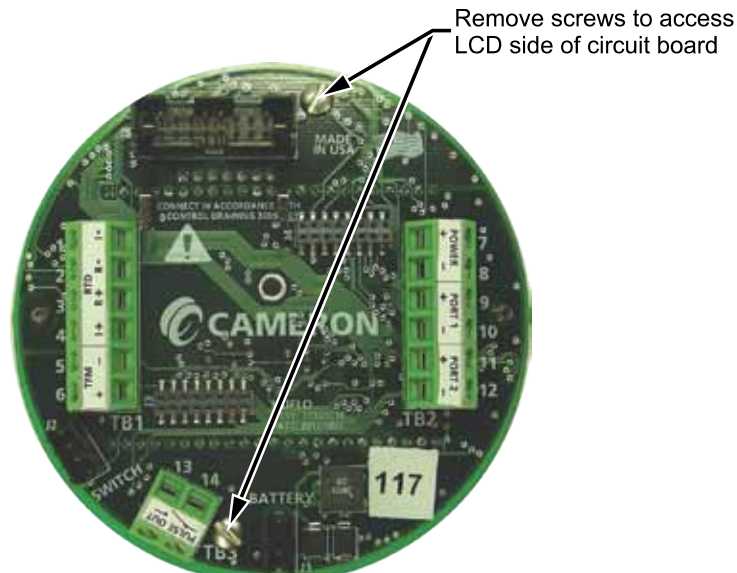

Figure 5.3—Disassembly of circuit board/keypad assembly
9. Remove the two #4-40 × 5/16" screws fastening the circuit board to the keypad (Figure 5.3, page 80).
4. Remove the two #4-40 × 5/16" screws fastening the circuit assembly to the keypad (Figure 5.3, page 80).